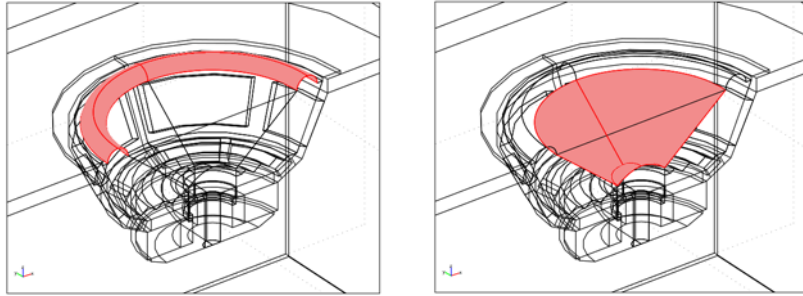

Figure 3-45: The boundaries of the surround (left) and cone and dust cap (right).
- 7 By clicking in the geometry or picking from the **Boundary selection** list, select the boundaries on both sides of the surround: Boundaries 46, 48, 148, 150, 190, 192, 222, and 223. See Figure 3-45.
- 10 By clicking in the geometry or picking from the **Boundary selection** list, select the boundaries on both sides of the cone and dust cap: Boundaries 61, 100, 111, 123, 198, 212, 240, and 248. See Figure 3-45.